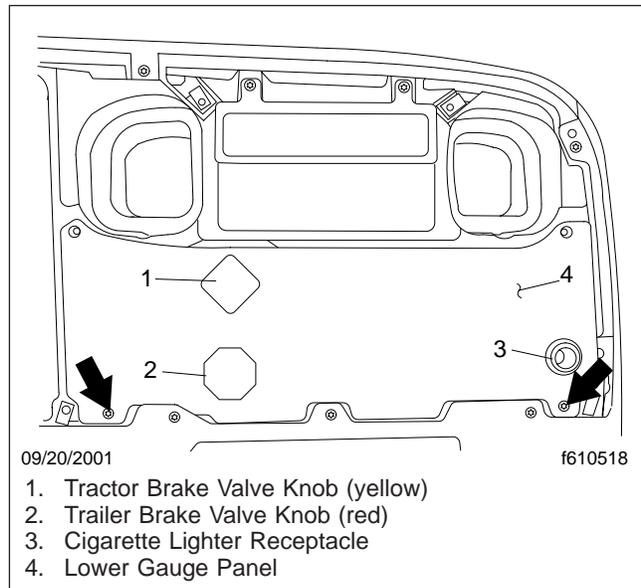

Fig. 2, Lower Gauge Panel Screws
6. Remove the lower gauge panel as follows; see Fig. 2.